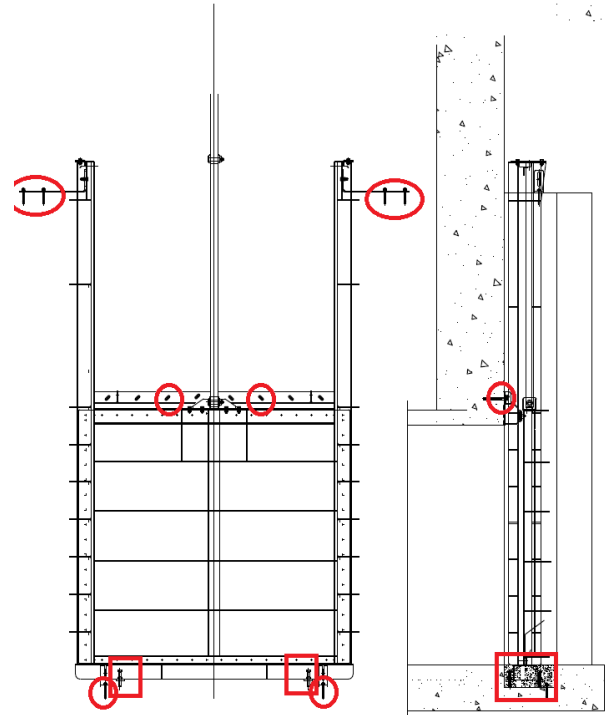

Figure 7
- Align the gate vertically adjusting the levelling bolts, placed in the invert of the frame (see Figure 7)
2. Insert all stem guides from the top of the stem extension. Align stem extension, and especially make sure it is aligned with the vertical axis of the opening (see Figure 7). The maximum misalignment shall be 3mm / 0,12"